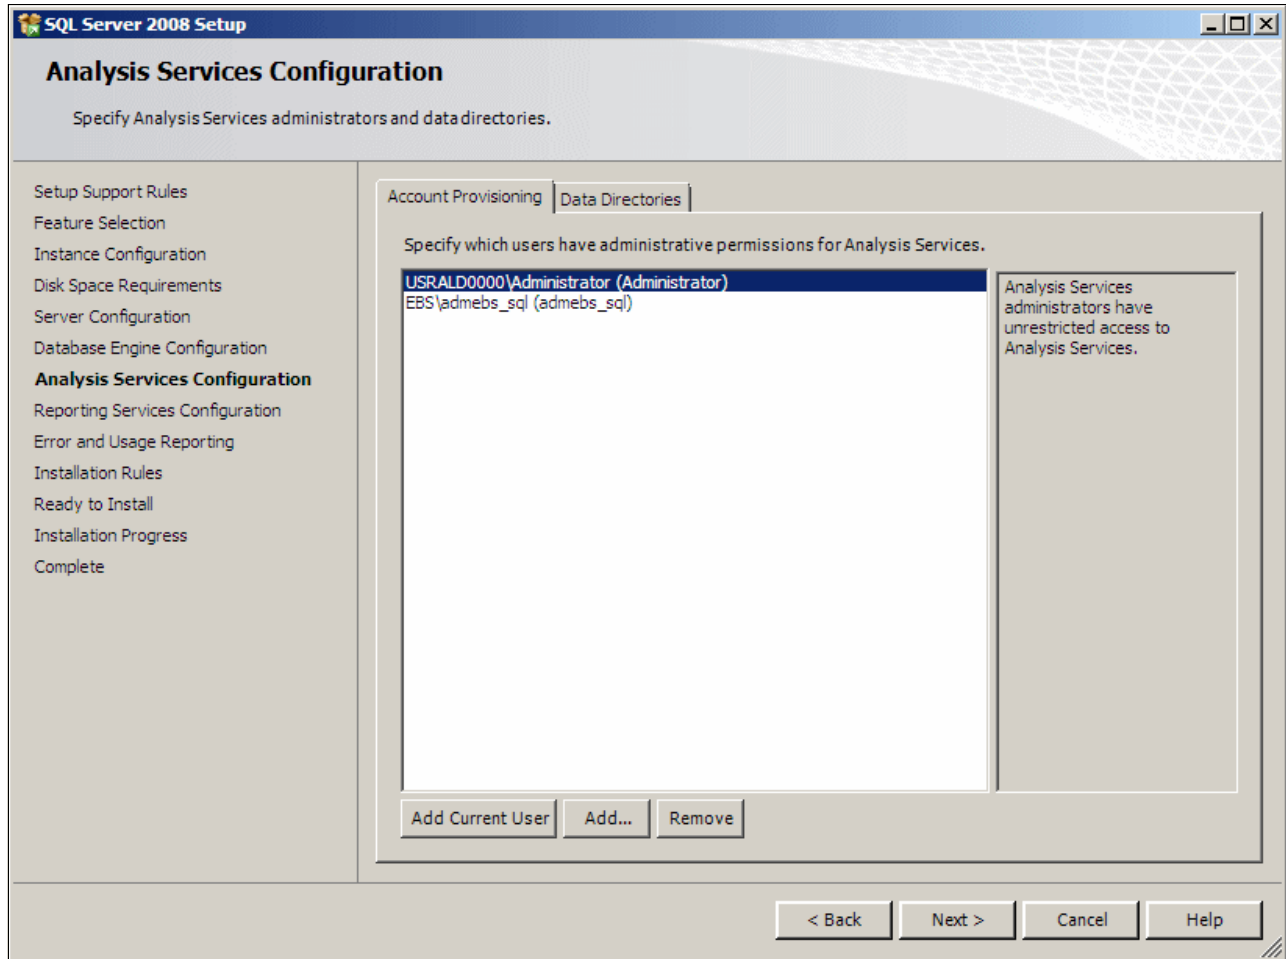

Figure 6-29 Analysis Services Configuration
12. Define a user account for Analysis Services on the Account Provisioning tab of the “Analysis Services Configuration” panel (Figure 6-29). SQL Server 2008 requires that you define a user account for the Analysis Services.